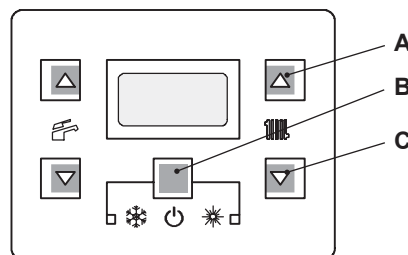
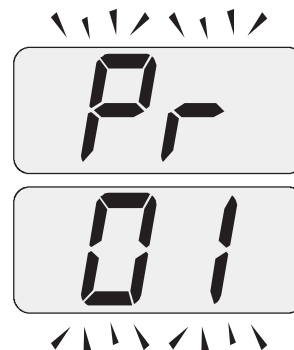

Figure 6.4
Figure 6.5
- 1 To enter in the parameters setting mode press sequentially the 3 keys "B - C - A" (Figure 6.4) and hold in for 10 second until the display shows Figure 6.5.
To reset the boiler to the normal operation press contemporary the 3 keys ("A - B - C" Figure 6.4) for 10 second.